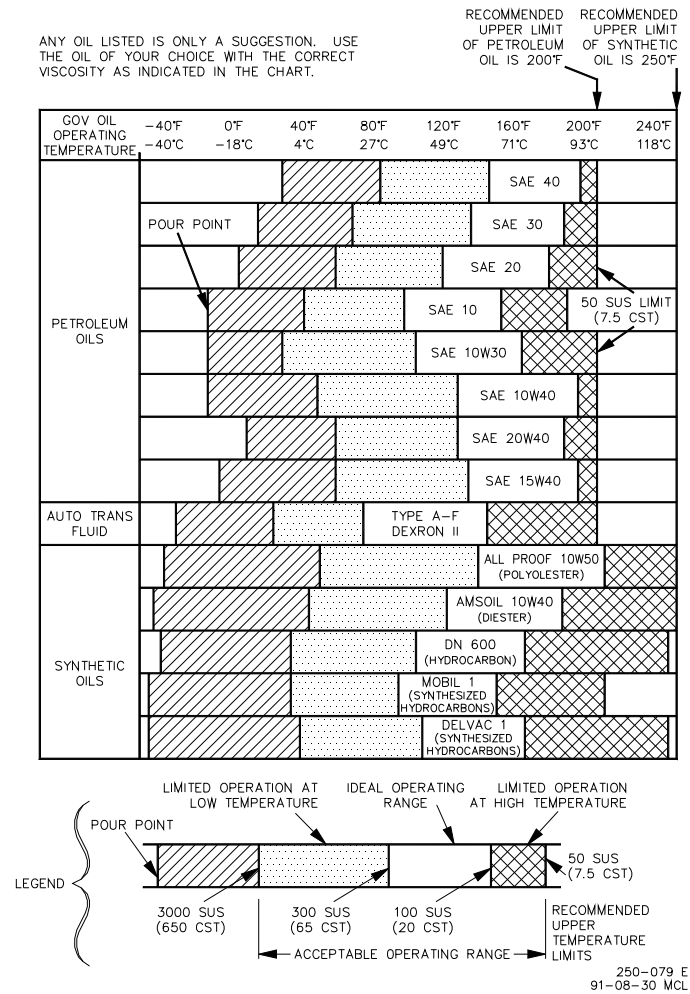

Figure 2-3. Oil Chart
3. Set the test stand for rotation to match the actuator specification sheet. (See Figure 2-3 for help in determining actuator rotation.)